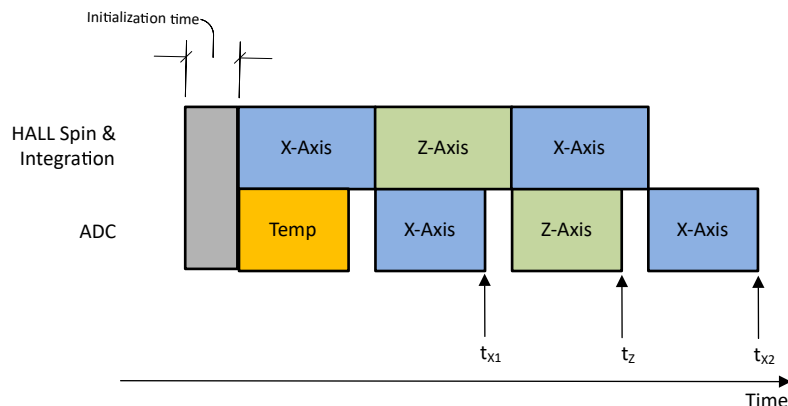

図 7-3. XZX Magnetic Field Conversion
In absolute angle measurement, application sensor data from multiple axes are required to calculate an accurate angle. The magnetic field data collected at different times through the same signal chain introduces error in angle calculation. The TMAG5170D-Q1 offers pseudo-simultaneous sampling data collection modes to eliminate this error. 図 7-3 shows an example where MAG_CH_EN is set at 1101b to collect XZX data. 式 7 shows that the time stamps for the X and Z sensor data are the same.
- t_{X1} , t_Z , t_{X2} are time stamps for X, Z, X sensor data completion as defined in 図 7-3.